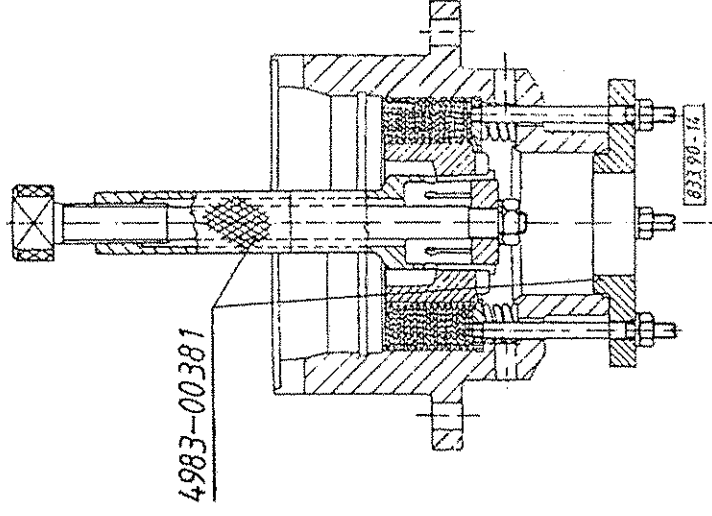

Fig. 3:
After positioning the disks install the toothed hub (54) by means of the tool shown in Fig. 3.